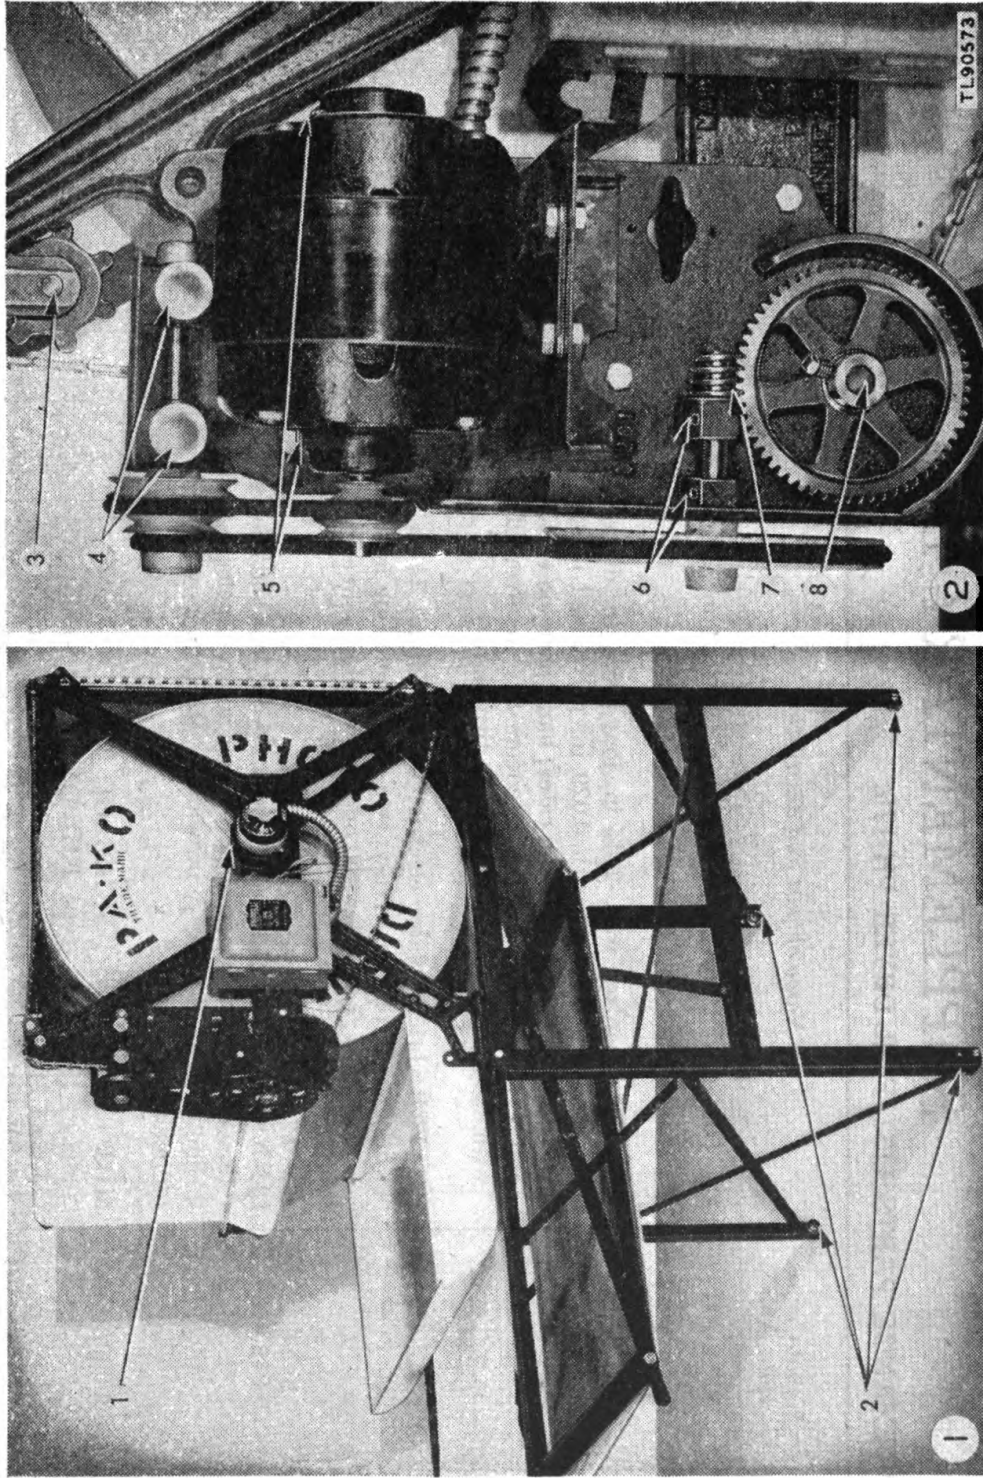

Figure 19. Lubrication points for Dryer PH-176.
9. LUBRICATION (fig. 19). The table on the next page shows the frequency of lubrication required for the equipment.